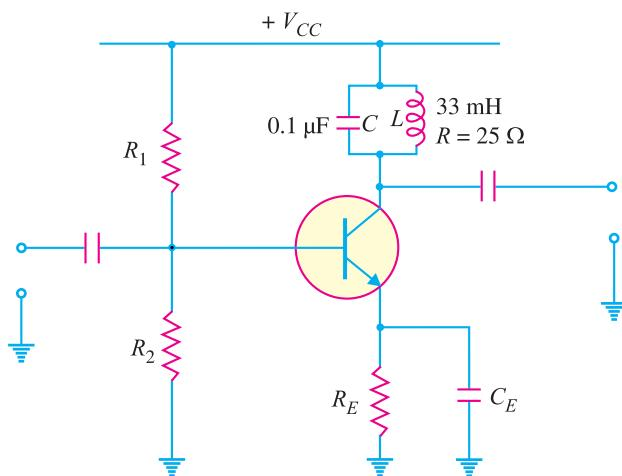

Fig. 15.12
**Example 15.7.** For the tuned amplifier shown in Fig. 15.12, determine (i) the resonant frequency (ii) the Q of tank circuit and (iii) bandwidth of the amplifier.